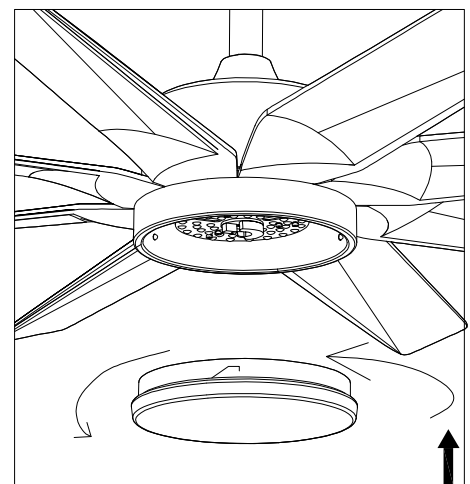

Figure 6.3
- Install the lampshade and rotate the lampshade onto the lampshade chassis.(Figure 6.3)